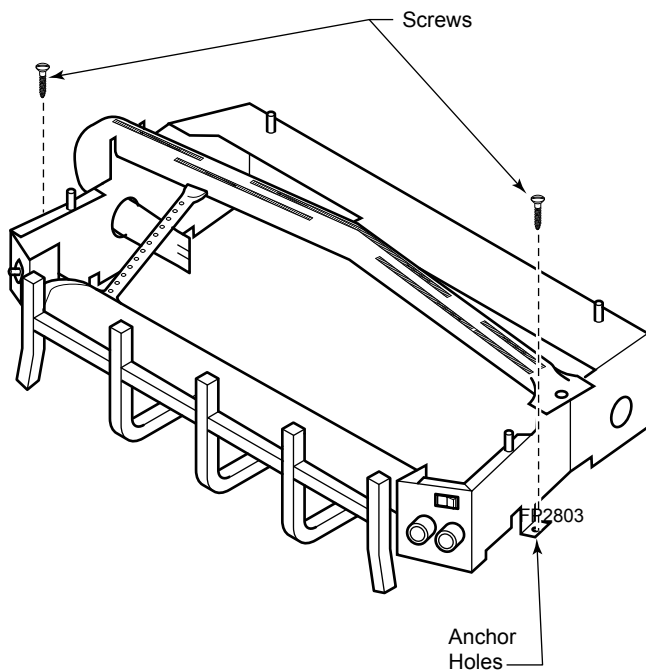

Figure 13 - Secure Heater to Floor of Fireplace or Firebox
2. Anchor holes are located on the right and left sides of the unit. After centering the grate correctly, mark the hole positions on the fireplace/firebox floor. Drill two (2) 5/32" diameter holes approximately 1-1/2" deep.
3. Anchor the grate to the fireplace/firebox floor using the screws provided. *Figure 13*